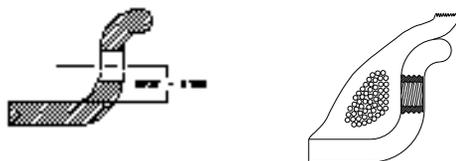

Figure 2 (90 degree shown)
- **Step 3.** Once both sides of the wheel are marked for hole placement, use a center punch to dimple the rim so that the 1/8" pilot drill has a good place to bite into. This will reduce the chance of the drill bit walking around on you and scarring up your wheel in the process. Make sure that the holes line up with the bead section of the tire in order to ensure that the screw penetrates into the steel cords. (See **Figure 2**). Final drill the holes to 13/64" maximum.